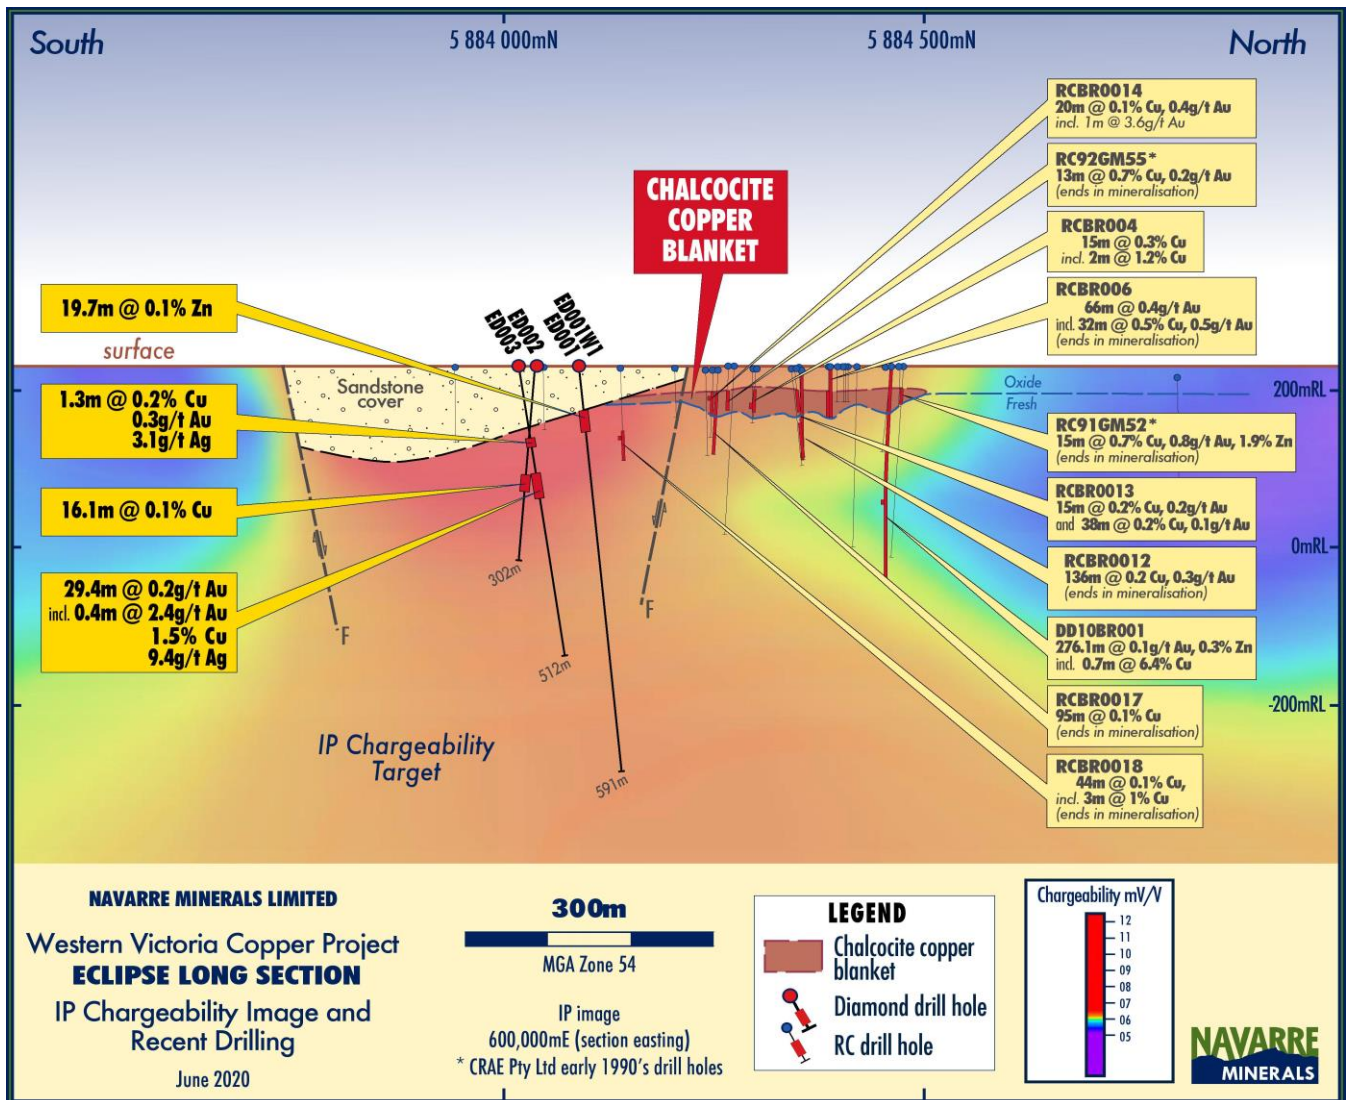

Figure 2: Eclipse prospect longitudinal projection, looking towards west, showing recent drilling on an IP chargeability image.
Navarre has completed 1,497m of diamond drilling across three holes at the Eclipse prospect within its 100%-owned Western Victoria Copper Project. The drilling program was designed to test a large induced polarisation (IP) geophysical chargeability anomaly beneath and adjacent to a supergene blanket of enriched copper (chalcocite) mineralisation (Figure 2).
Three angled diamond drill holes were completed across an east-west transect corresponding with the strongest IP chargeability response and magnetic high (Figures 2 & 3). All holes intersected broad zones of pyrite mineralisation, a good sign for a significant and fertile volcanic hydrothermal system containing anomalous gold, copper, silver and zinc assay values, and explains the IP response.
Best drill intercepts returned in this round of drilling include (See Tables 1 & 2 and Figures 2 & 3):